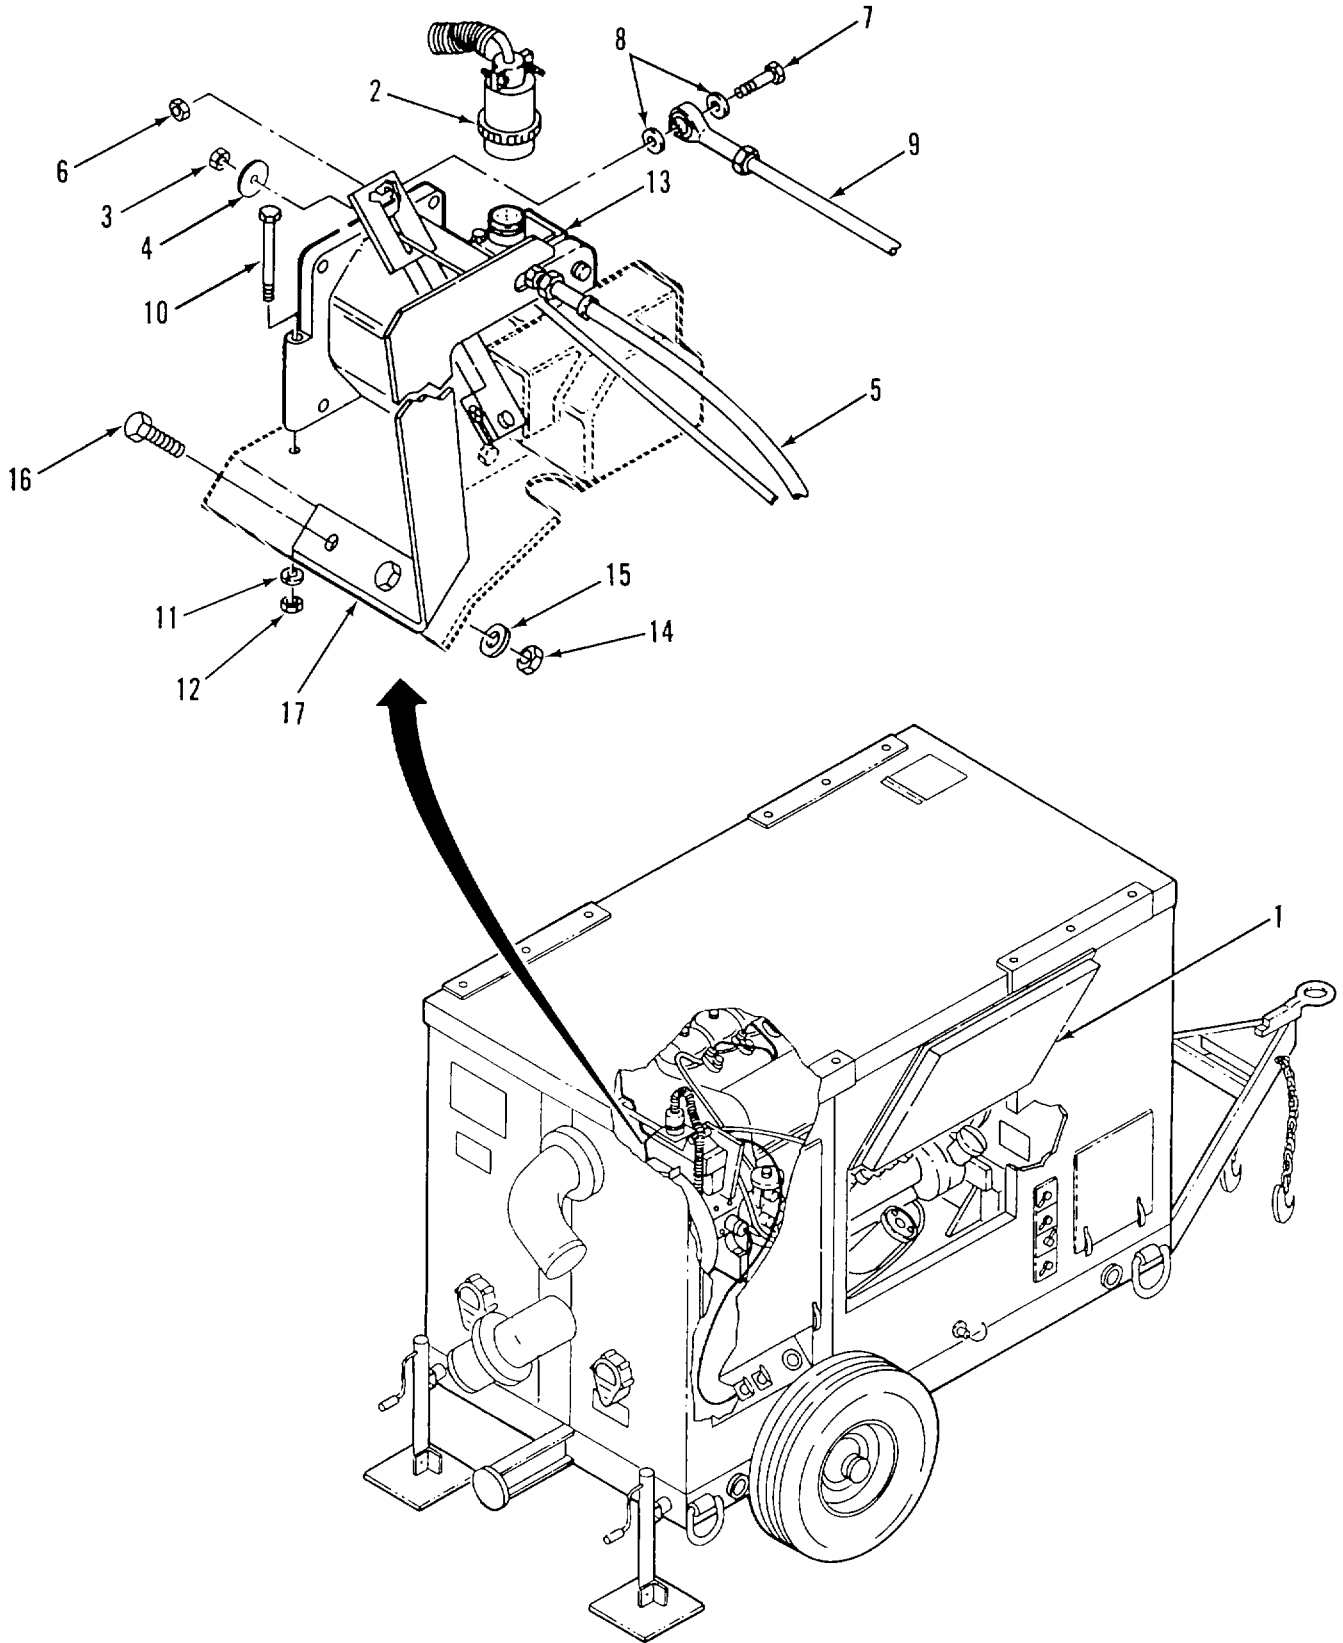

Figure 2-17. Governor Actuator Assembly
a. REMOVE. (Figure 2-17)
- (1) Open engine access door (1).
- (2) Disconnect cable connector (2) from governor actuator assembly (13).
- (3) Remove nut (3) and flat washer (4) from auto defeat cable (5).
- (4) Remove nut (6), bolt (7), and washers (8) and disconnect rod assembly (9).
- (5) Remove governor actuator mounting bolts (10), lockwashers (11), and nuts (12).
- (6) Remove governor actuator (13).
- (7) Remove nut (14), lockwasher (15), bolt (16), and linkage bracket (17). (Retain for installation of actuator.)